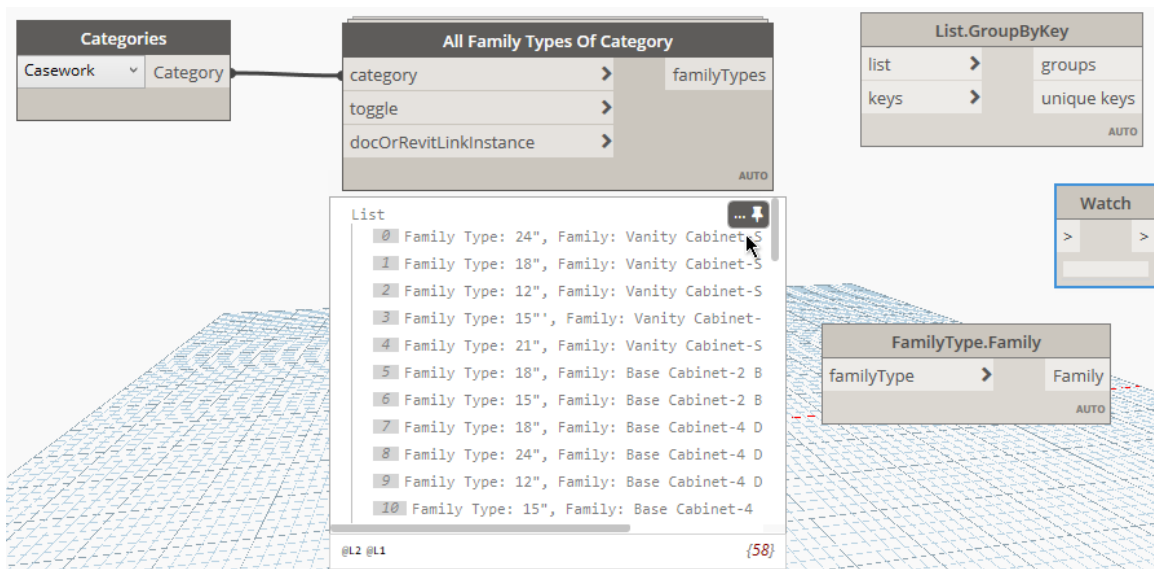

Figure 46
5. From the drop-down list on the *Categories* node, choose: **Casework** and then expand the preview bubble (see Figure 46).